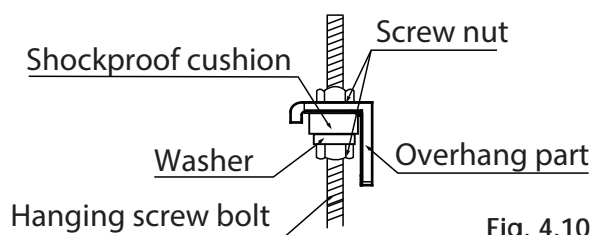

Fig. 4.10
9. Mount the indoor unit onto the hanging screw bolts with a block. Position the indoor unit flat using a level indicator to prevent leaks. (See Fig. 4.10).